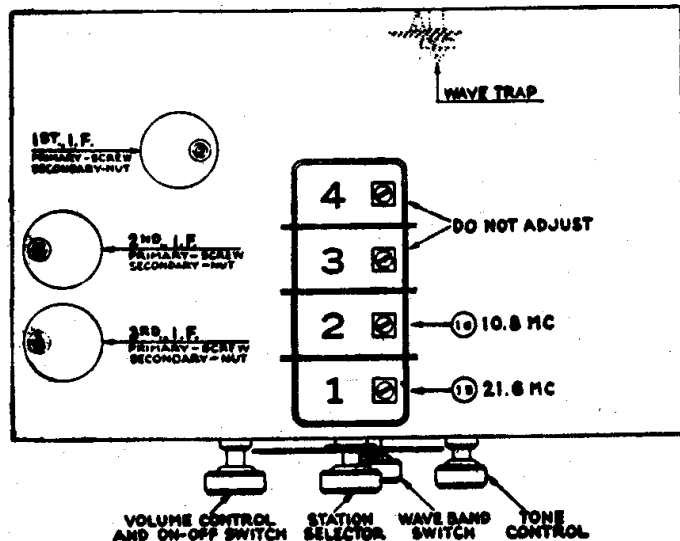

FIG. 2—Position of Compensating Condensers Reached from Above Chassis
Connect the output meter to the primary terminals of the output transformer. Set the signal generator at 460 K.C. (the intermediate frequency of Model 34) and adjust each of the I.F. compensating condensers in turn, to give maximum response in the output of the receiver. The location of the I.F. compensating condensers is shown in Figure 2. Each of these transformers has a dual compensating condenser mounted at its top, and accessible thru a hole in the top of the coil shield. In the dual compensators, the Primary circuit is adjusted by turning the screw; the Secondary circuit is adjusted by turning the hex-head nut.
2—ADJUSTMENT OF THE WAVE TRAP—Replace the grid clip upon the Detector-Oscillator tube (Type 1C6). Connect the output leads from the signal generator directly to the antenna and ground terminals of the receiver. Set the Wave-Band Switch of the receiver to the standard broadcast band (Range 1) and the Station Selector at the low frequency (520 K.C.) end. Adjust the Wave Trap ② condenser to give MINIMUM response to a 460 K.C. signal from the signal generator. The Wave Trap ② is located at rear and underneath the chassis, and is shown in Figures 2 and 5. It is reached from the rear of the chassis.